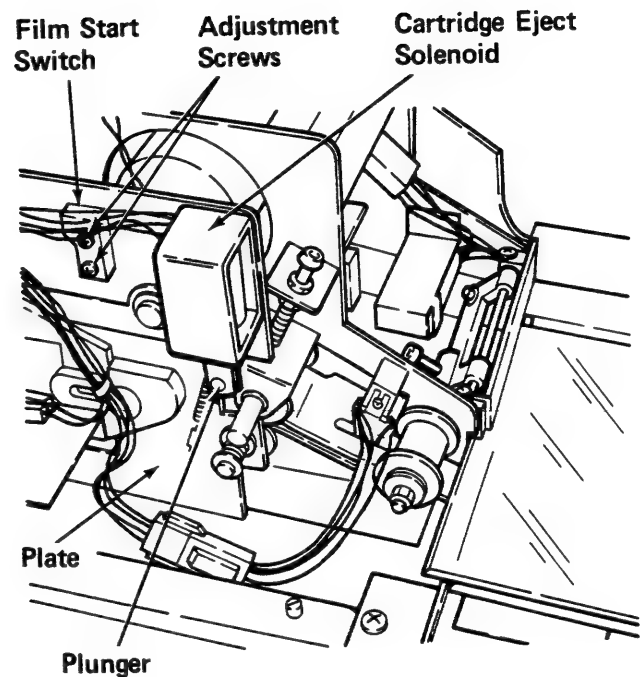

Figure 3-10.3A
1. Loosen the Adjustment Screws (Figure 3-10.3A) and reposition the Film Start Switch (S4) as required.